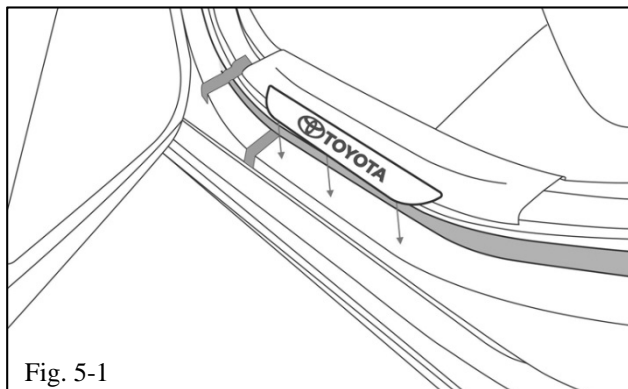

Fig. 5-1
- Position a rear door sill protector over the rear driver side vehicle door sill area. Align the front edge/corner along the back edge of the tape applied in Step 4(b) to check for proper fit and orientation prior to installation (Fig. 5-1).
(c) Carefully align the part on the flat area of the center of the sill (Fig. 5-1).